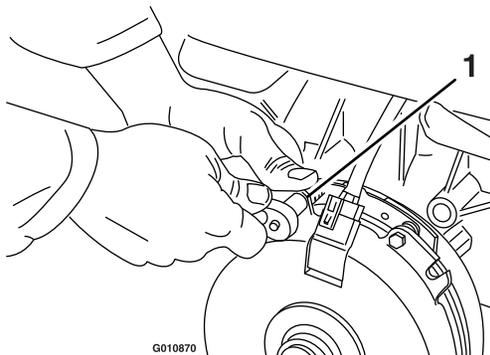

Figure 82
- A. Loosen both brake-mounting bolts 1/2 to 1 full turn as shown in Figure 82.